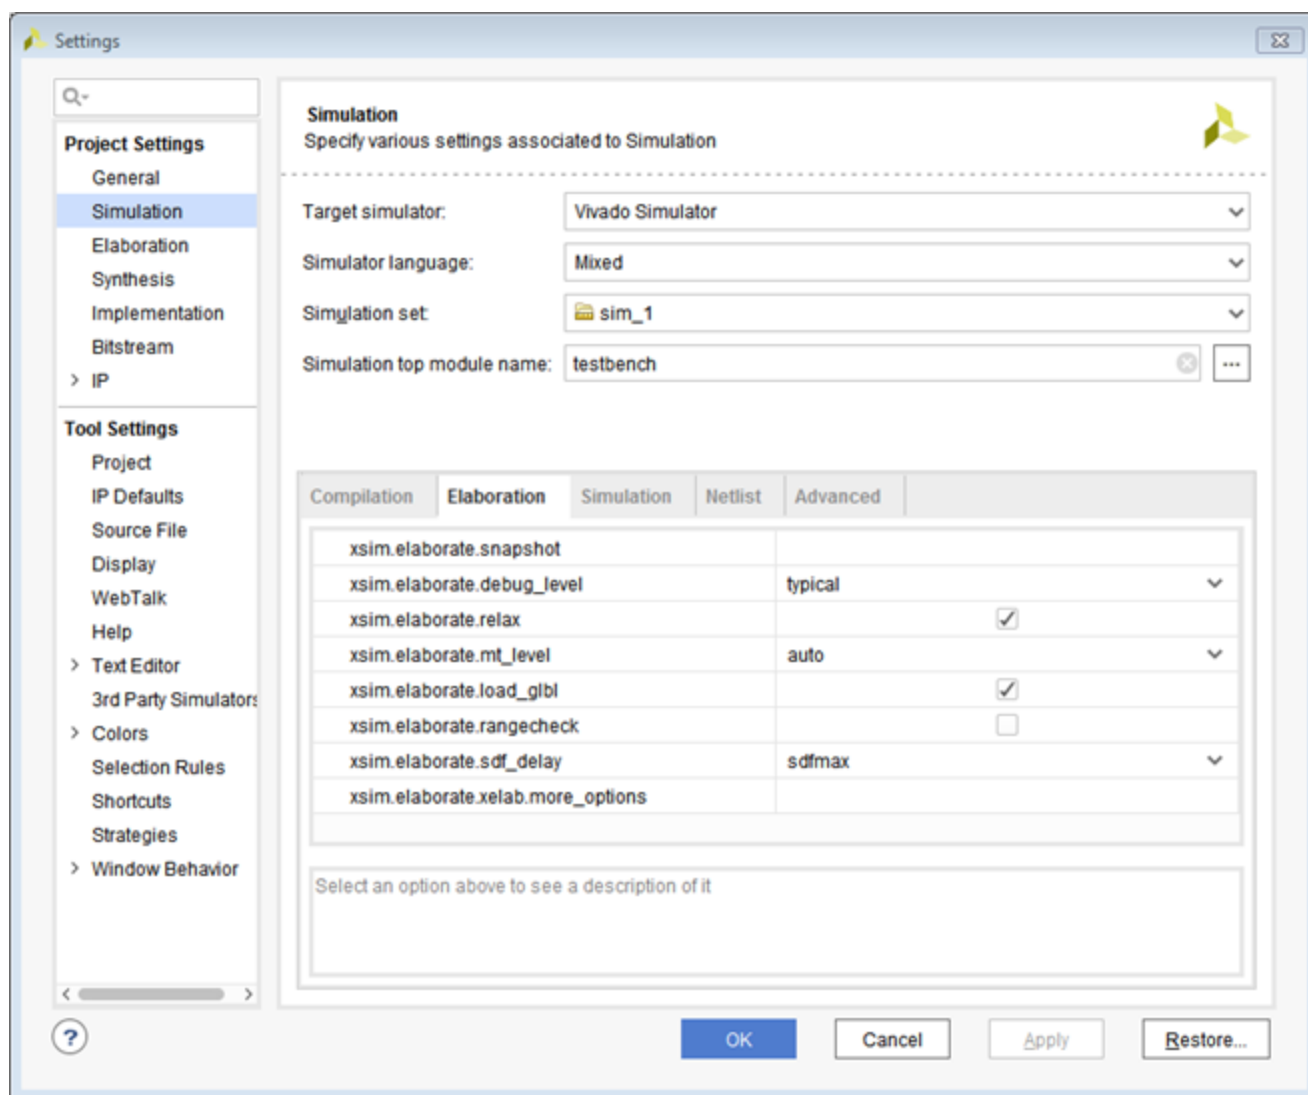

Figure 14: Simulation Settings: Elaboration
2. In the **Elaboration** tab (Figure 14), ensure that the debug level is set to **typical**, which is the default value.